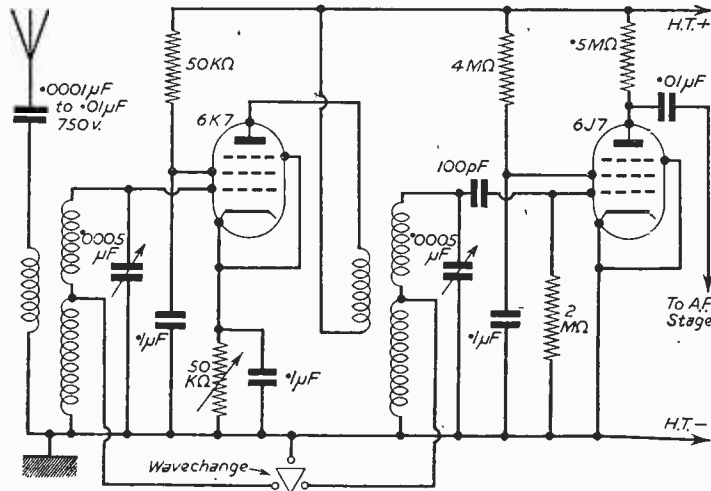

Fig. 1.—Typical tuned circuits of a simple T.R.F. receiver.
**M**ANY simple T.R.F. receivers are very sensitive, but have exceedingly poor selectivity. At the worst, the local station may hinder proper reception of many distant stations which might otherwise be enjoyed. The tuned circuits used in simple sets of this kind usually resemble those shown in Fig. 1. The coils are often air-cored, and the high sensitivity and absence of reaction further contribute to the extent to which local stations spread over the tuning range.
For maximum results, accurate alignment is necessary. This will be even more important than with Fig. 1, due to the greatly increased selectivity. The M.W. band may be treated first, the switch being set for M.W. reception. To align, the coil cores are adjusted at a fairly high wavelength on the band, and the trimmers at a low wavelength. If a station scale is present, adjustments may be directed towards obtaining correct dial readings. If no such scale is present, then adjustments are made for maximum volume only. In each case the cores are carefully adjusted, with an ebonite or similar blade, for maximum volume. A metal blade is not suitable. The trimmers are then adjusted as mentioned, and the procedure repeated, choosing very weak stations. The L.W. band cores